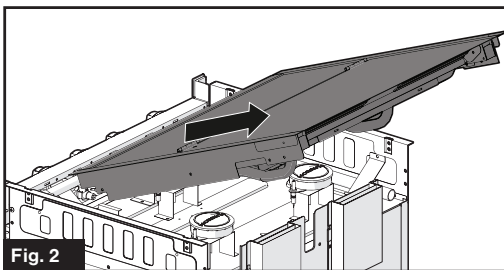

Fig. 2
3. Push towards the rear of the oven and lift to remove to remove the top glass cover from the oven. (Fig. 2)